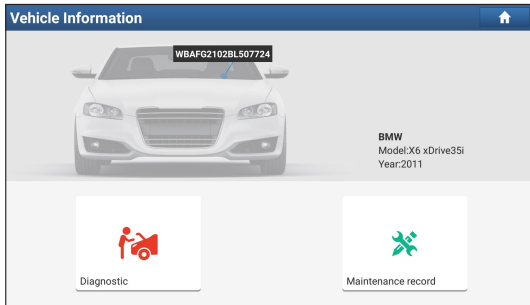

Fig. 5-10
1. If the VIN can be found from the server database, a screen similar to Fig. 5-10 displays: